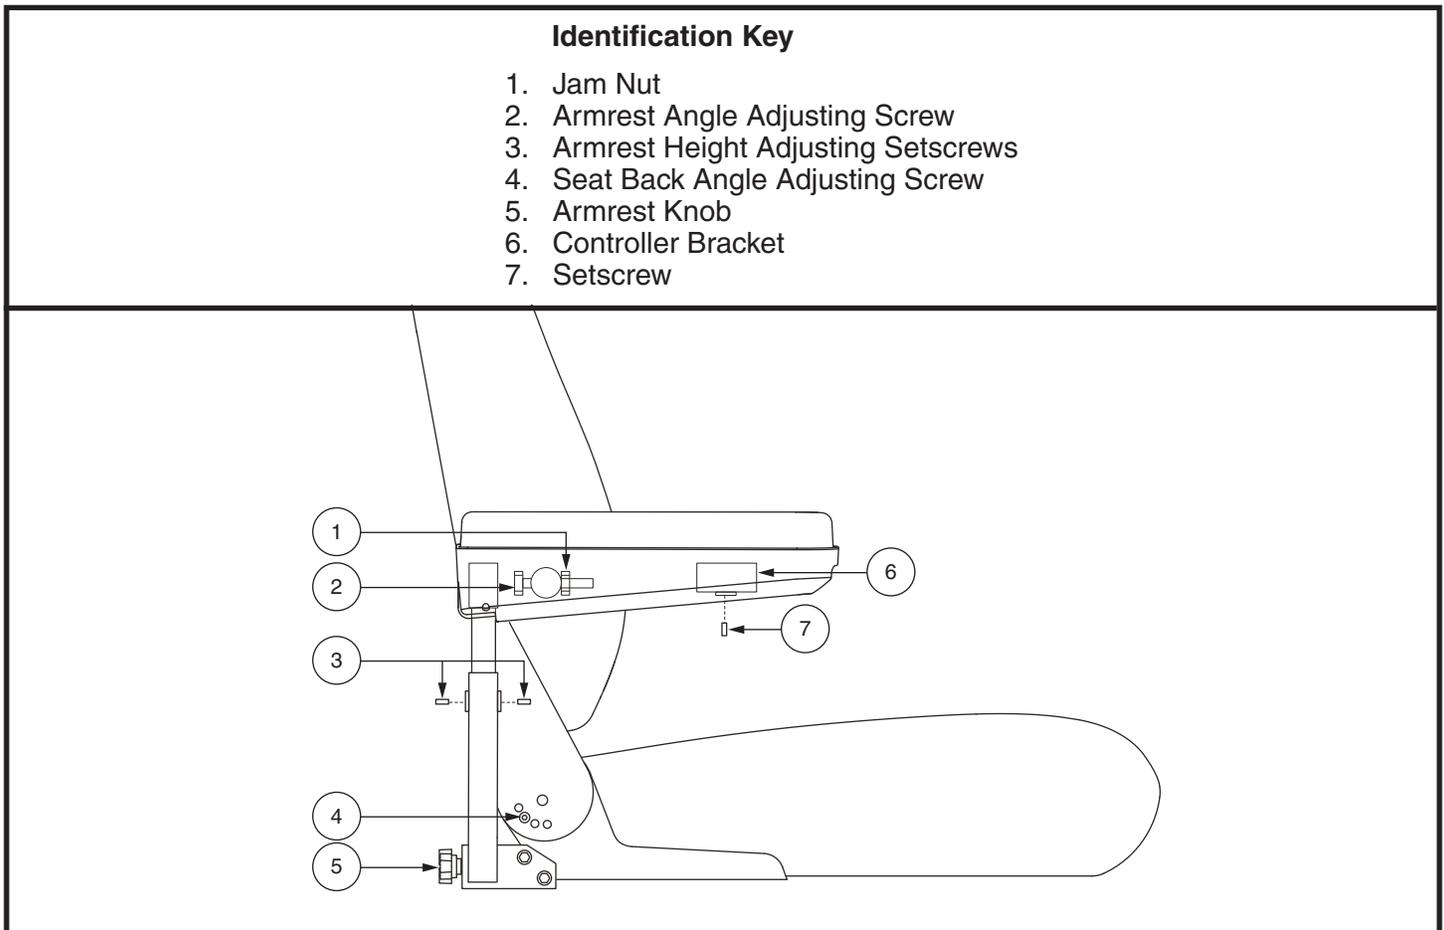

Figure 15. Seatback and Armrest Adjustments for Contour Seat
1. Remove the adjusting screws from each seat hinge. **See figure 15.**
1. Lift the armrest straight up so that is perpendicular to the floor. **See figure 15.**
1. Loosen the two setscrews located on the armrest receiver. **See figure 15.**
2. Loosen the setscrew on the controller bracket. **See figure 15.**